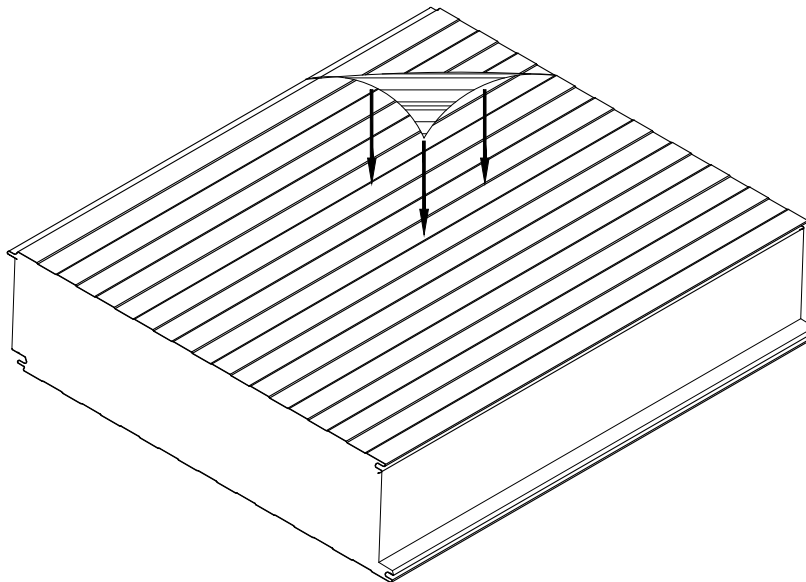

FIGURE 4
- 9.4 THE BEST WAY TO REMOVE THE PROTECTIVE PLASTIC FILM IS TO START AT A PANEL CORNER AND PEEL OFF AT A 45° ANGLE (SEE FIGURE 4, BELOW).